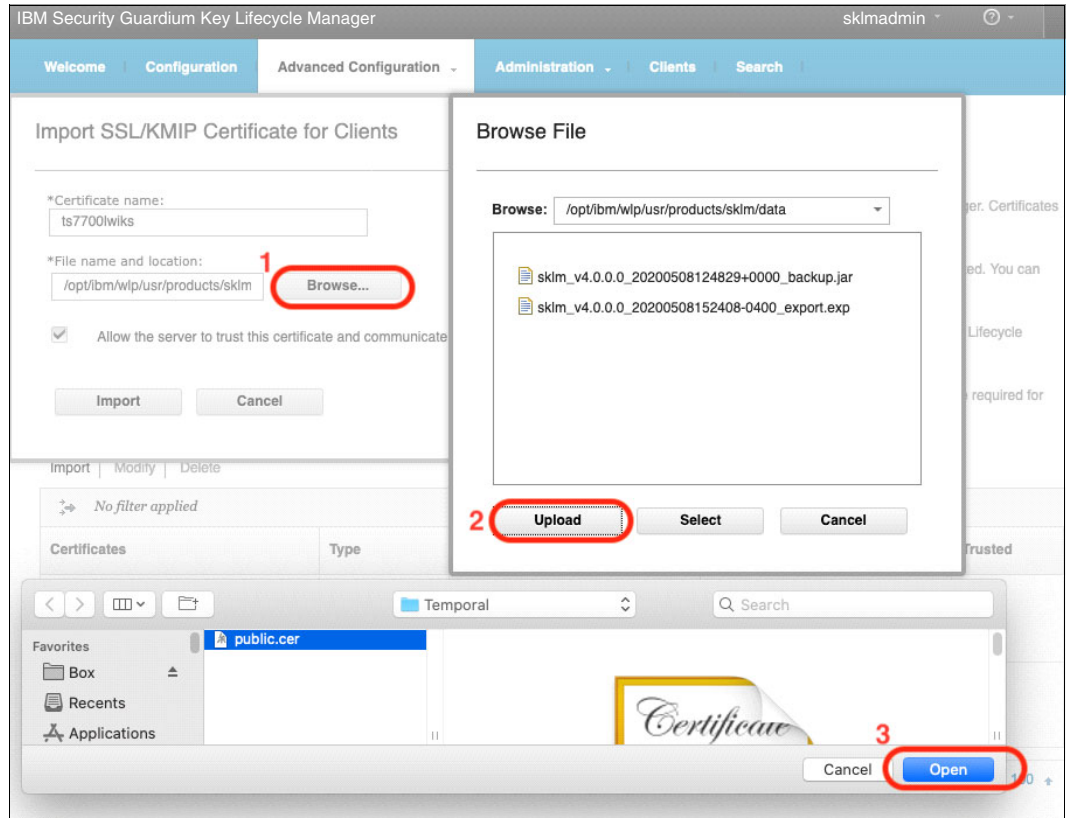

Figure J-13 Uploading TS7700 into the IBM Security Guardium Key Lifecycle Manager
2. The **Import SSL/KMIP Certificate for Clients** opens (see Figure J-13 on page 1031). Complete the following steps: